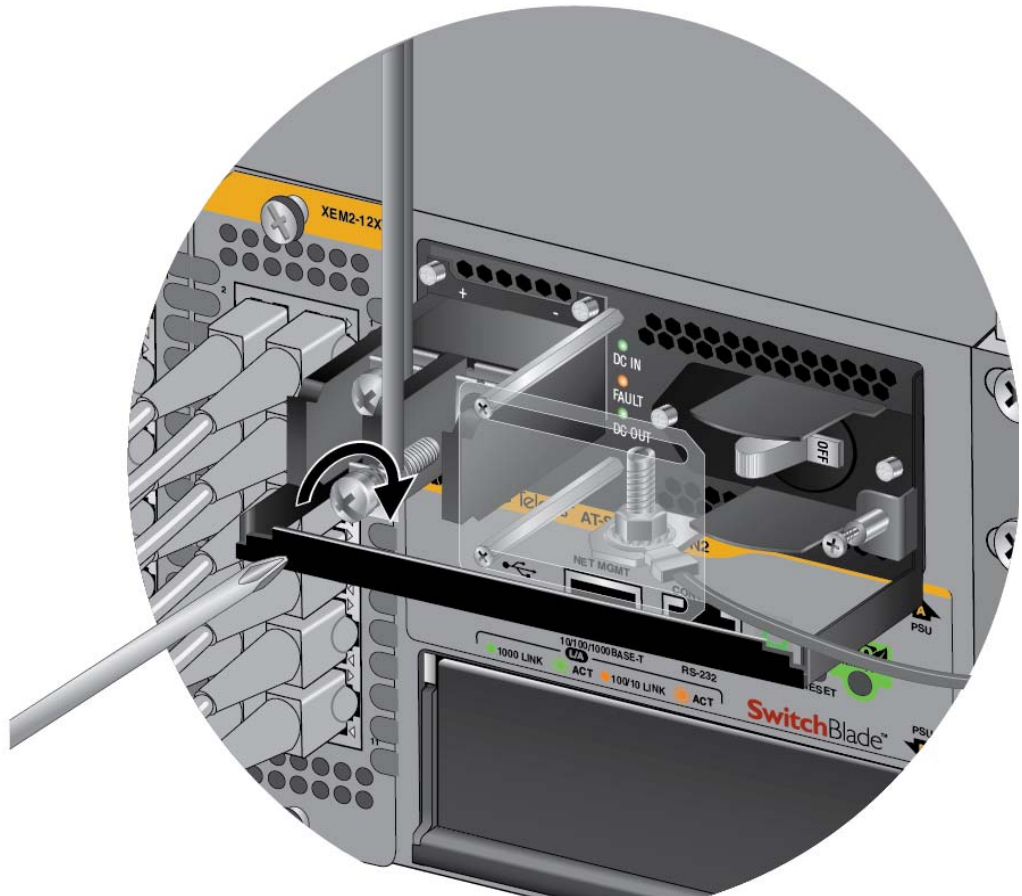

Figure 79. Connecting the Negative Lead Wire with Bare Wire
5. Wrap the negative lead wire clockwise around the remaining terminal screw and secure the screw and wire to the negative terminal connection on the terminal block with a #3 Phillips-head screwdriver, as shown in Figure 79 on page 109. The negative terminal is on the right.